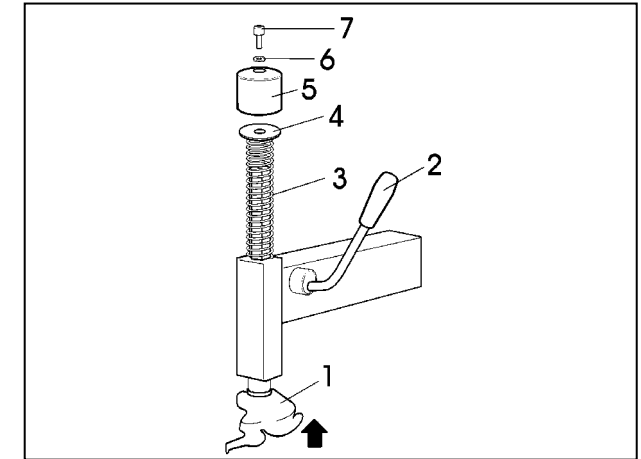

Fig. 5
K. Release the lever #2 and mount the hexagonal arm from the bottom (#1 Fig.5).
K. Débloquer le levier #2 et monter la barre hexagonale du bas (#1 Fig.5).